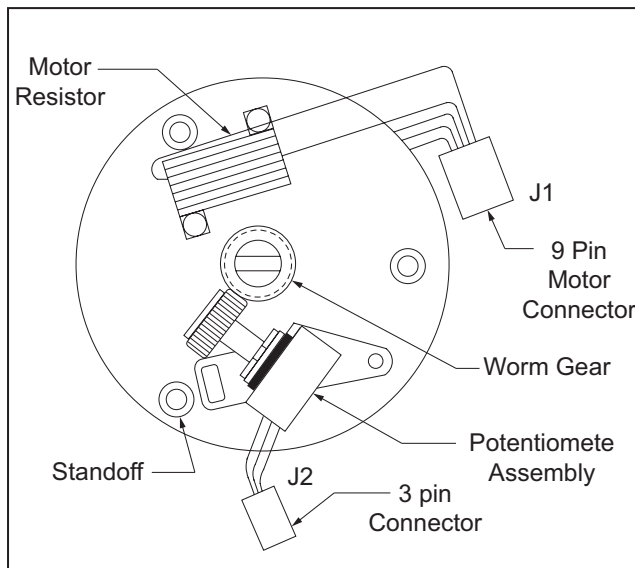

FIGURE 14. Circuit Board Removed.
4. Remove P2 and connect DVM between P2 pin 1 and P2 pin 2 (*Figure 14*). Loosen screws to potentiometer to allow movement of potentiometer gear without moving nylon worm gear. Set potentiometer to 1.5K ohms ± 100 ohms for Milroyal® B, C, and MACROY® pumps, 0.87 ohms ± 0.1 ohms for mRoy® pumps and 1.3 ohms ± 0.1 ohms for MAXROY® and Milroyal® D ECCs and re-tighten potentiometer screws. This sets the resistance of the potentiometer.